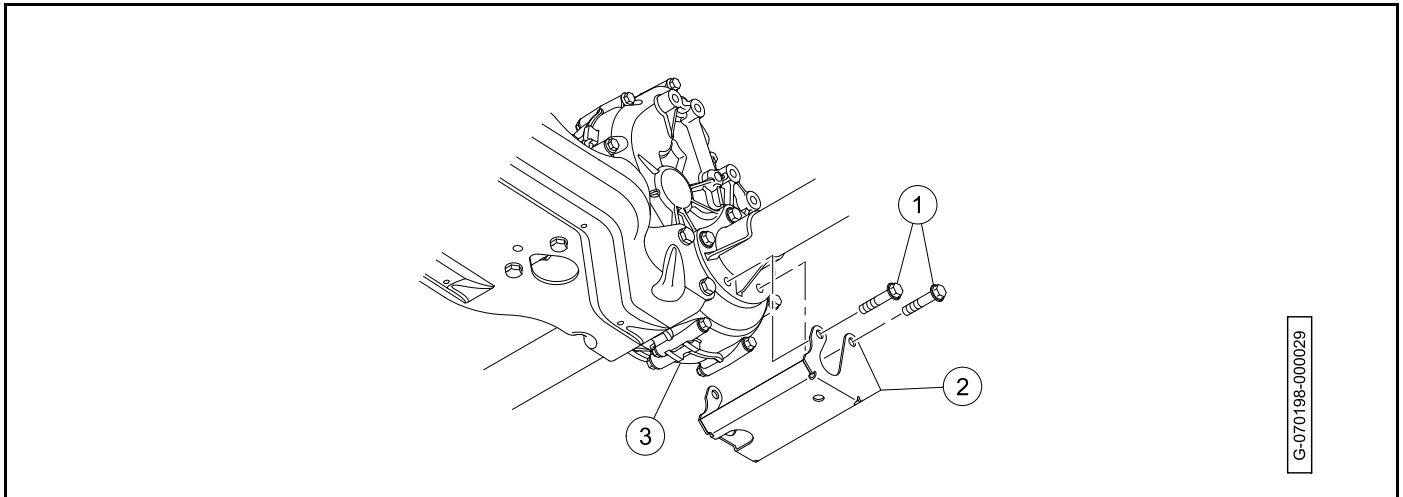

Figure 18-6 Differential Guard Installation
2. Secure the differential guard (2) to the transaxle (3) with the 4 bolts (1). Tighten the four bolts from 25 ft·lb to 31 ft·lb (34.3 N·m to 42.2 N·m) (Figure 18-6, Page 18-7).